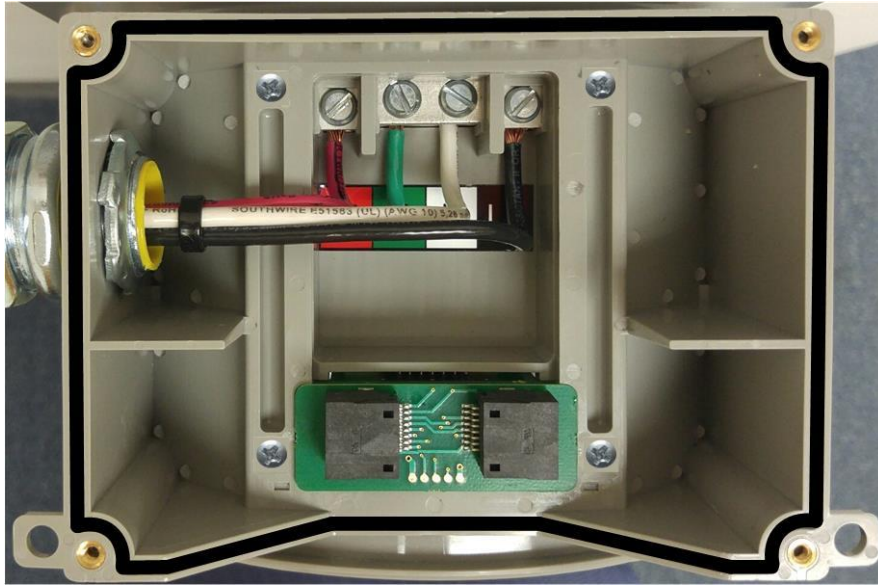

FIGURE 21
3. Connect the field wiring to the terminals as shown in **FIGURE 21** and tighten to the values shown in **TABLE 3** below.